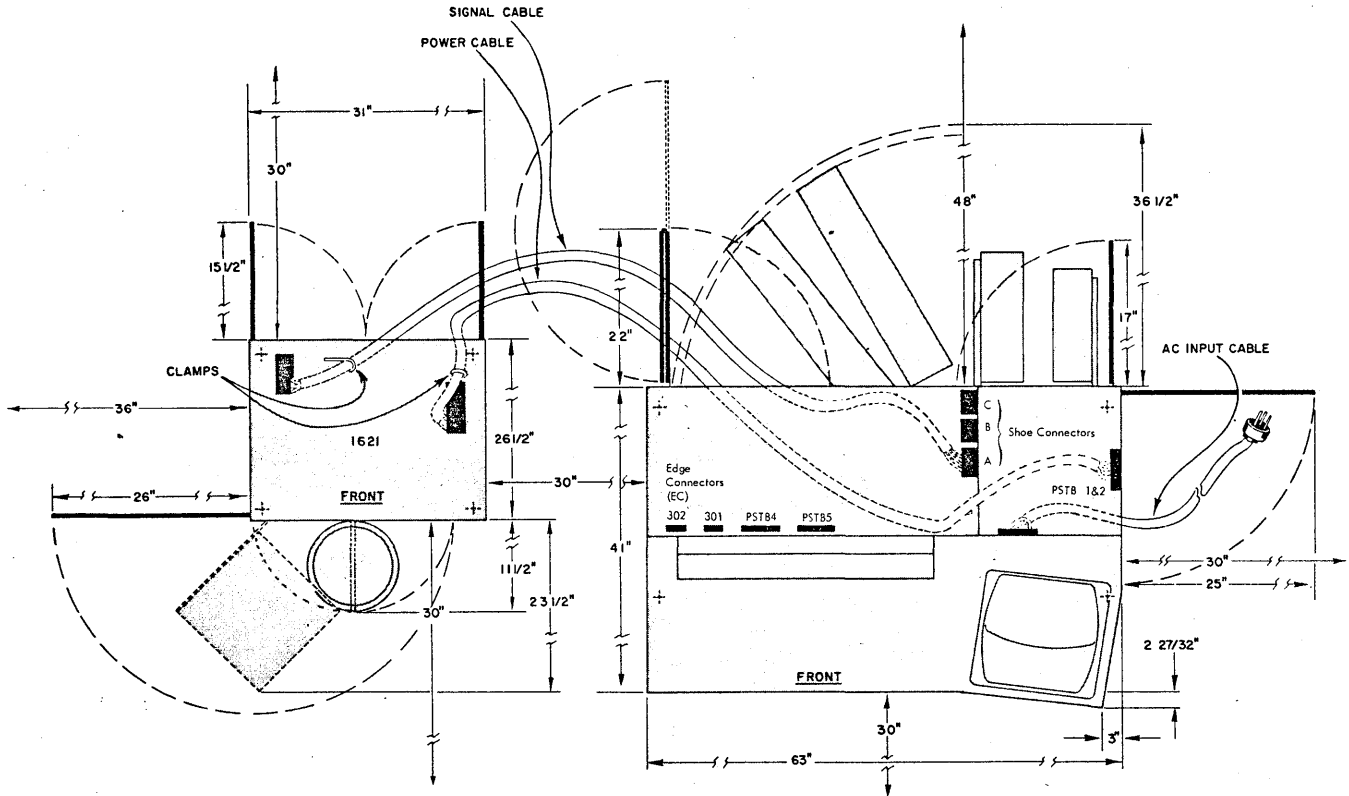

Figure 4. Sample arrangement 1620-1621
7. Connect signal cable between 1620 and 1621. Connect power cable to 1621. Figure 2 indicates 1621 power cable terminals for 1620 A and B suffix without 1622 or 1623 installed. Figure 3 indicates 1621 power cable terminals for 1620 after B suffix. Figure 4 shows a sample arrangement of the 1620 System. Figure 6-3 in Section 6 shows the physical location of the 1620 isolated ground bars.